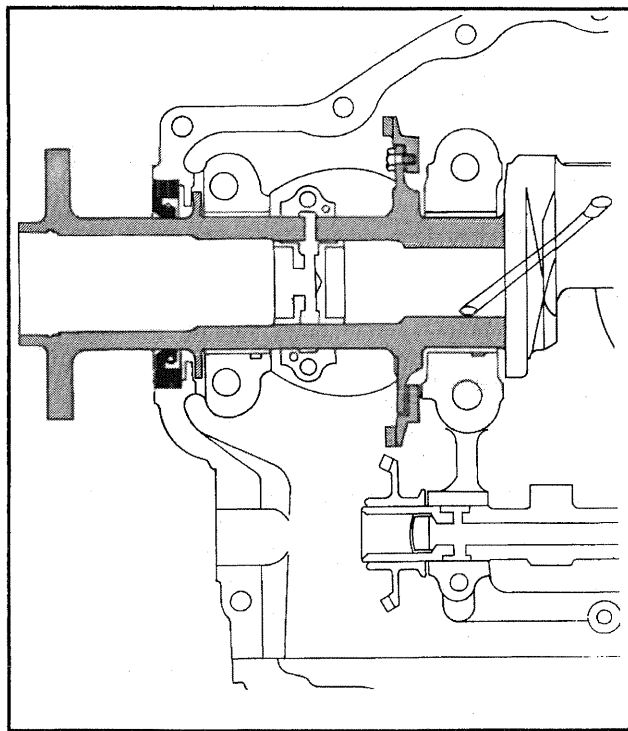

FIGURE 7-2. ALTERNATOR DRIVE GEAR INSTALLED.
- j. Heat gear (28) in oven at 300° F. for half hour or more and install on crankshaft (See Figure 7-2). Secure with four bolts (26) and tab lock plates (27).